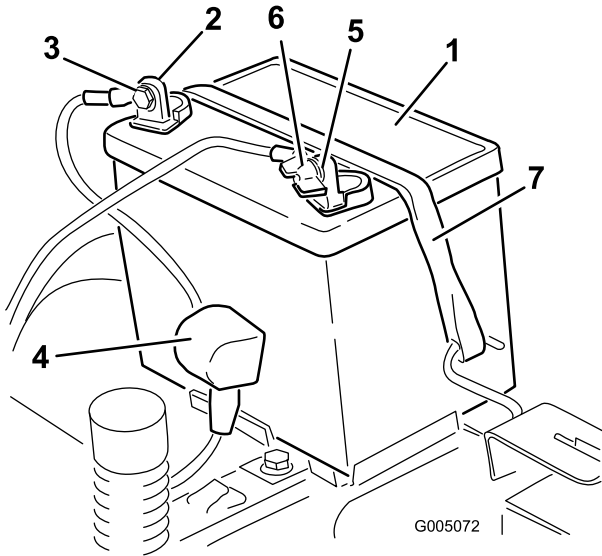

Figure 39
4. Disconnect the negative (black) ground cable from the battery post (Figure 39). Retain all fasteners.
- Slide the rubber cover up the positive (red) cable. Disconnect the positive (red) cable from the battery post (Figure 39). Retain all fasteners.
- Remove the battery hold-down (Figure 39) and lift the battery from the battery tray.
- Position the battery in the tray (Figure 39).
- Secure the battery with the hold-down (Figure 39).